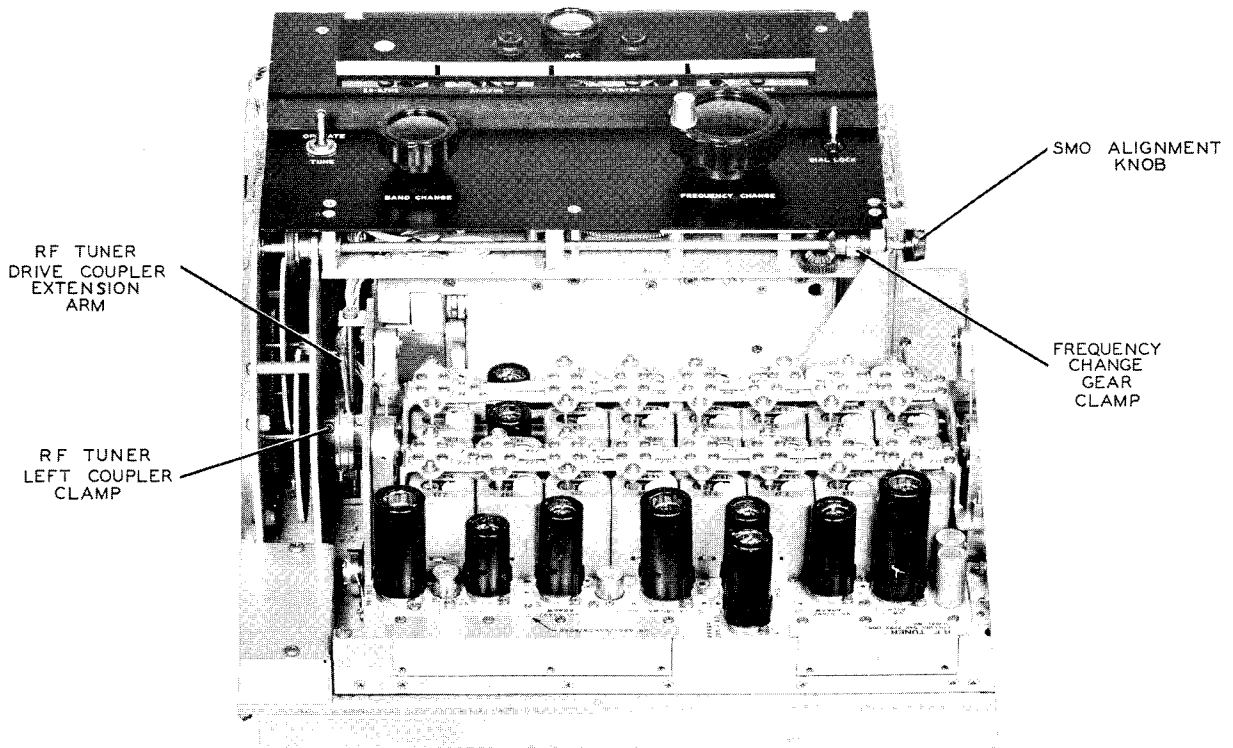

Figure 5-16. Converter-Oscillator CV-731/URC, Frequency Change Drive Adjustments
e. Loosen gear clamp at lower right-hand corner of hinged control-panel (see figure 5-16). It may be necessary to turn FREQUENCY CHANGE knob to allow access to screw head on gear clamp. If necessary, return to original frequency setting of step e, after loosening clamp.